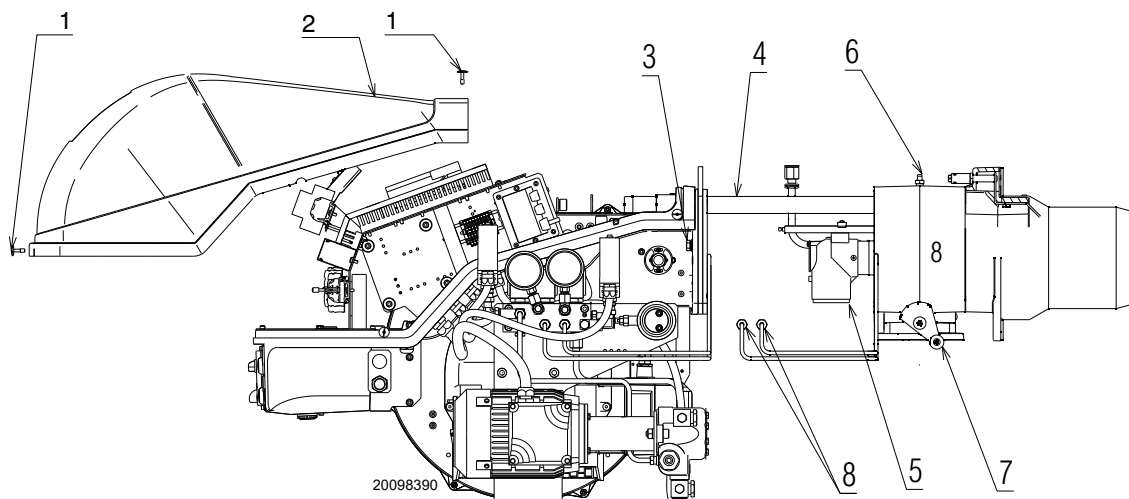

Fig. 54
- loosen screws 1)(Fig. 54, page 40) and withdraw the cover 2);
- refit screws 3)(Fig. 54, page 40) and pull the leads gently out until they are slightly stretched;